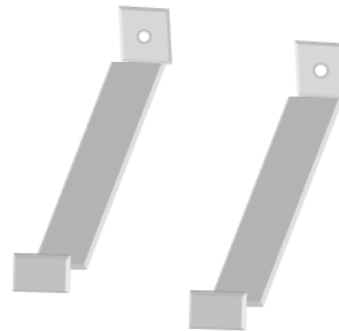

Figure 10 Stabilizer Bars
- Stabilizer Bars (2) – Figure 10 Stabilizer Bars